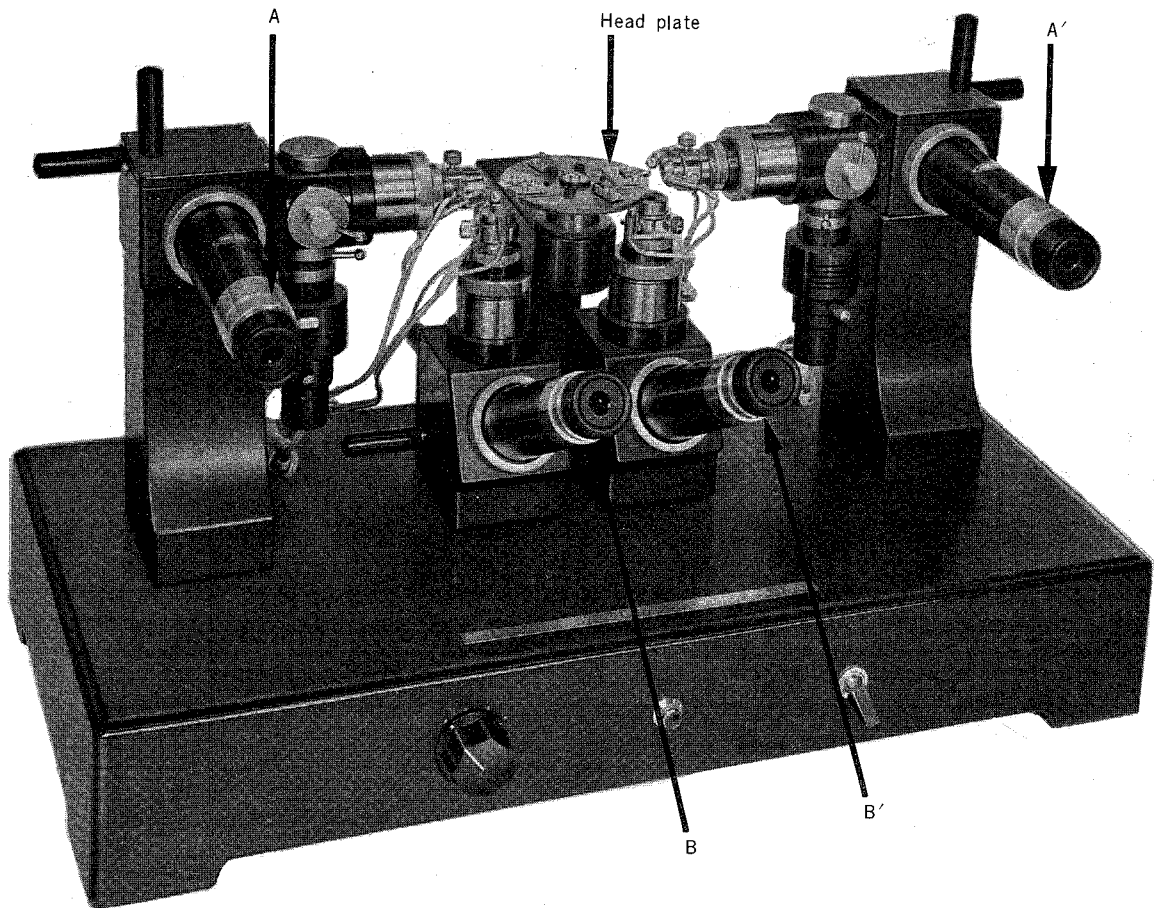

Fig. 3
- Screw down the head plate at the center part of the microscope, positioning the brass plate so that it is located on the forward side of the head plate as shown in Figs. 3, 4, and 5.